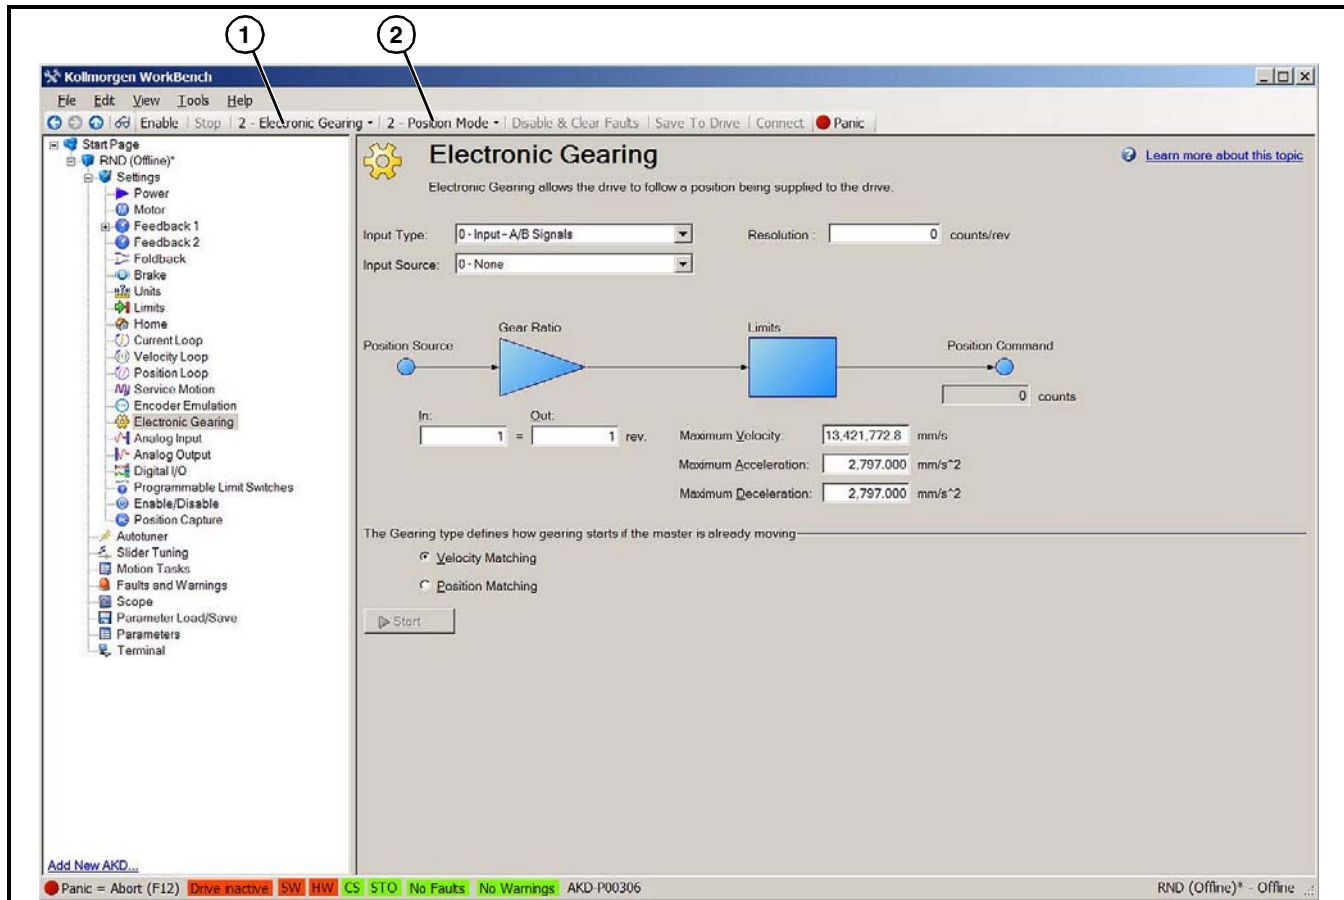

Figure 19
- In the toolbar, select **2 – Electronic Gearing** (Figure 19, item 1) and **2 – Position Mode** (Figure 19, item 2).